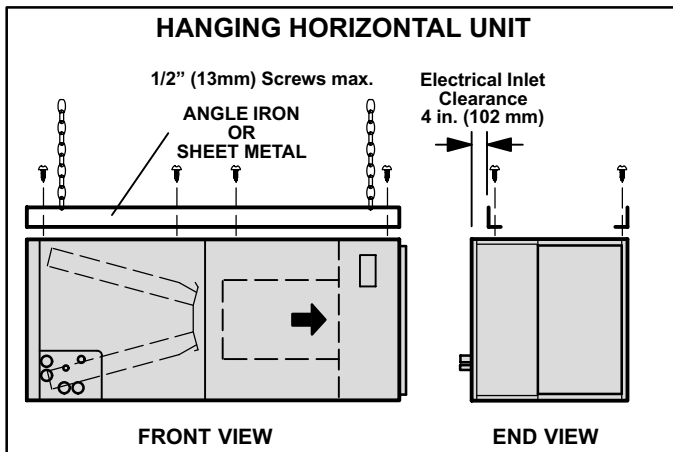

FIGURE 16
- 3- If hanging the unit, it must be supported along the entire length of the cabinet. If using chain or strap, use a piece of angle iron or sheet metal attached to the unit (either above or below) so that the full length of the cabinet is supported. Use securing screws no longer than 1/2" (13mm) to avoid damage to coil or filter. See figure 16. Connect return and supply air plenums as required using sheet metal screws.
- 13- If hanging the unit, it must be supported along the entire length of the cabinet. If using chain or strap, use a piece of angle iron or sheet metal attached to the unit (either above or below) so that the full length of the cabinet is supported. Use securing screws no longer than 1/2" (13mm) to avoid damage to coil or filter. See figure 16. Connect return and supply air plenums as required using sheet metal screws.